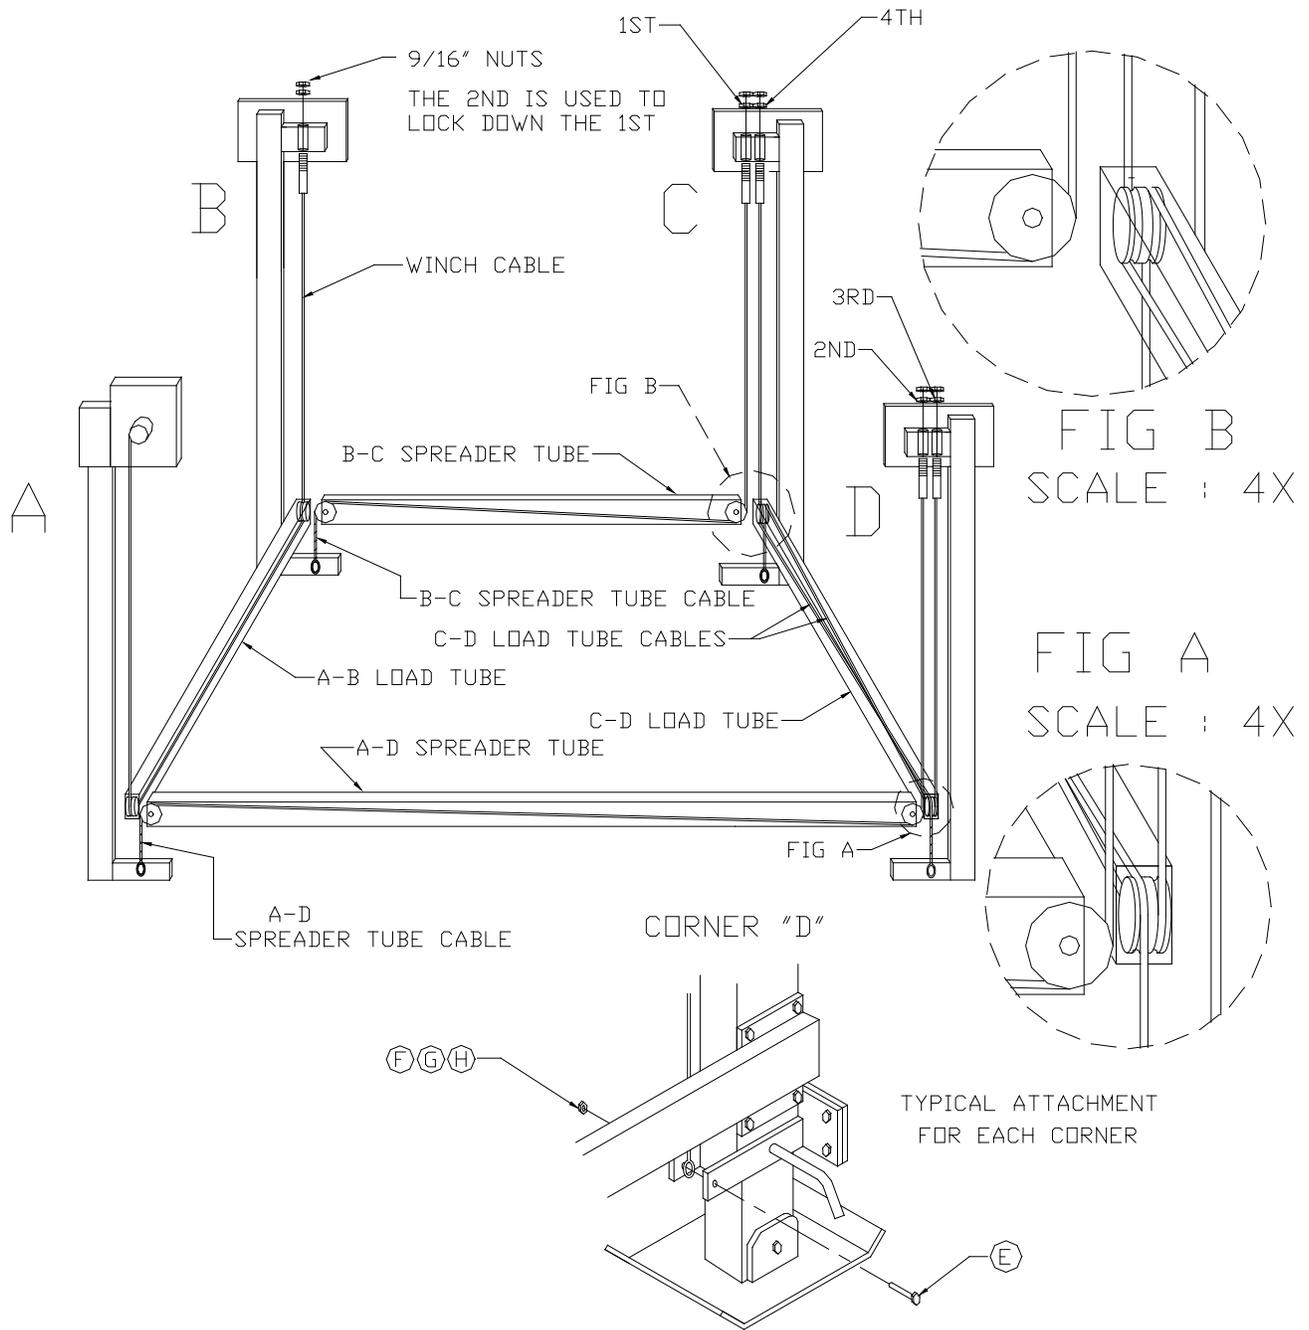

Figure 2-1.
2. Refer to Figure 2-1. Fasten the cable end loops to the bracket provided at the bottom of each of the four vertical legs using the 1/2" x 3-1/2" bolts and 1/2" locknuts supplied with your vertical lift assembly.
3. Using a 7/8" open-end wrench, tighten the cable studs opposite the cable end loops in the following order. The following step numbers correspond to the step numbers shown in Figure 2-1.
7. Refer to Figure 2-1. Tighten down the nut to fasten the A-B load tube cable stud to leg B. Add and tighten a jam nut to the cable nut to lock the position.
- Refer to Figure 2-1. Tighten down the nut to fasten the A-B load tube cable stud to leg B. Add and tighten a jam nut to the cable nut to lock the position.